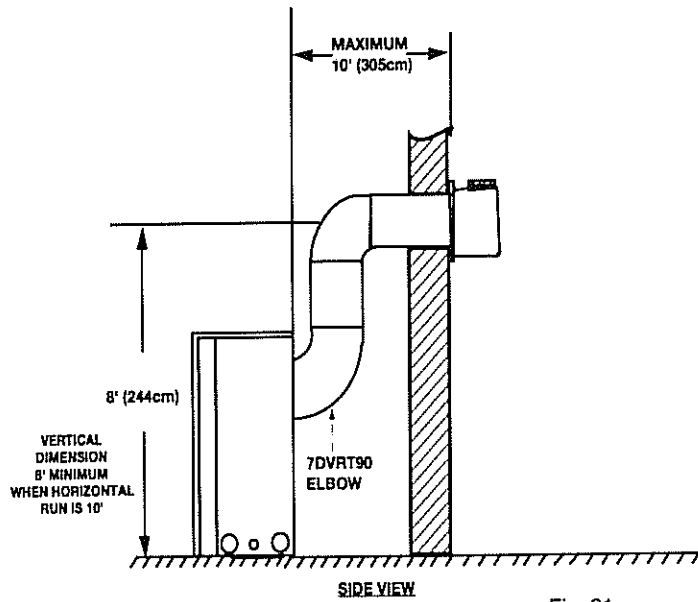
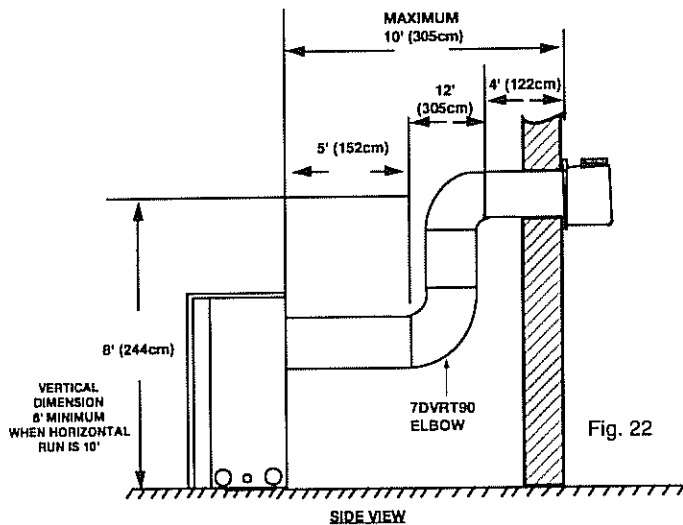

Fig. 21
Fig. 22
For some installations, it may be desirable to have some amount of the horizontal vent run immediately after the fireplace. A vertical rise must be used somewhere in the vent system, to meet the perimeters identified in the venting graph. e.g.: The total horizontal length from the back of the fireplace to the outside wall may be 10' as long as the vertical height centre of the vent pipe is 8'. (Fig. 22)
3. Select the indicated dimension, and position the fireplace in accordance with same. (Fig. 21 & Fig. 22)